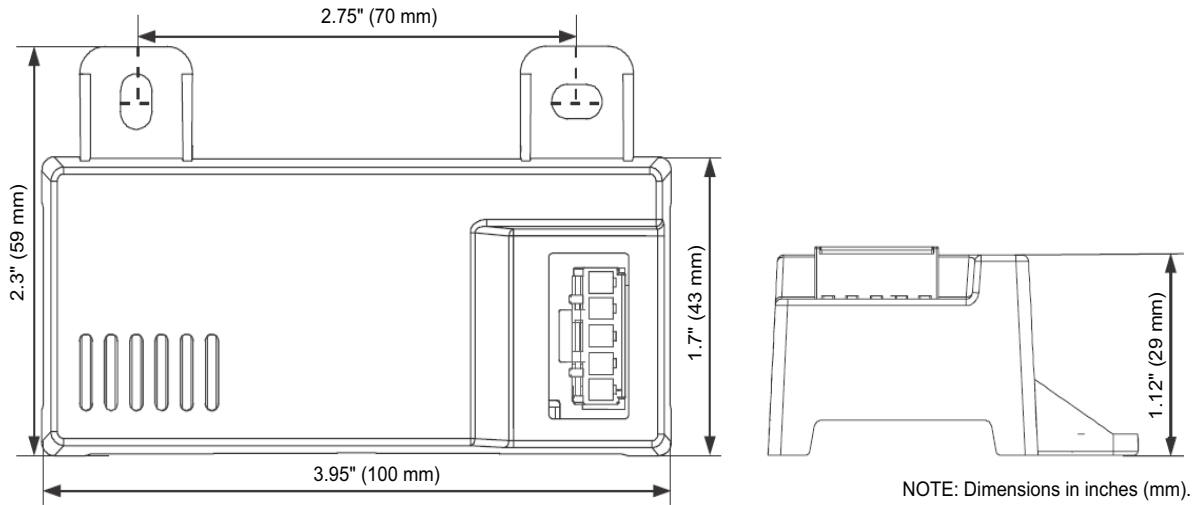
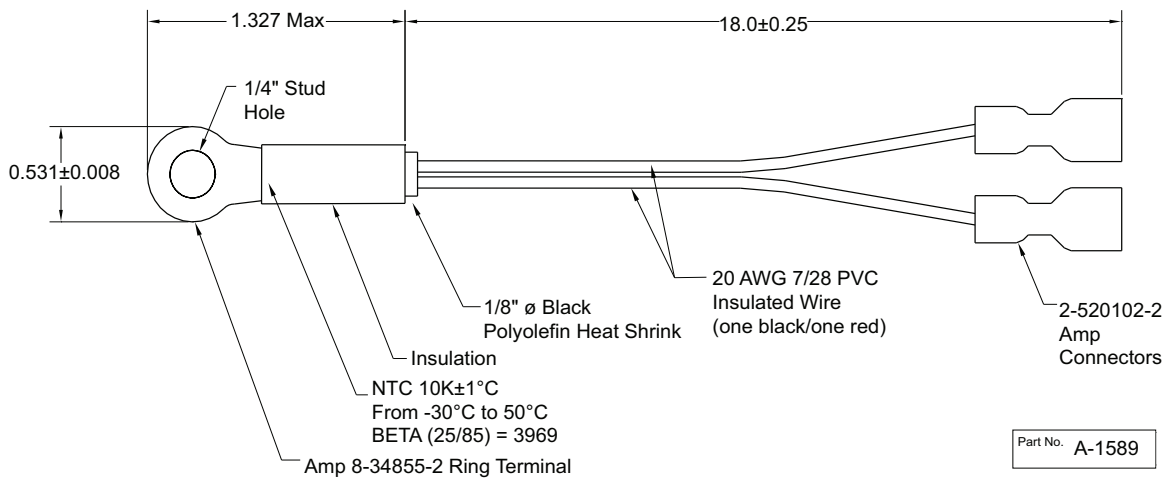
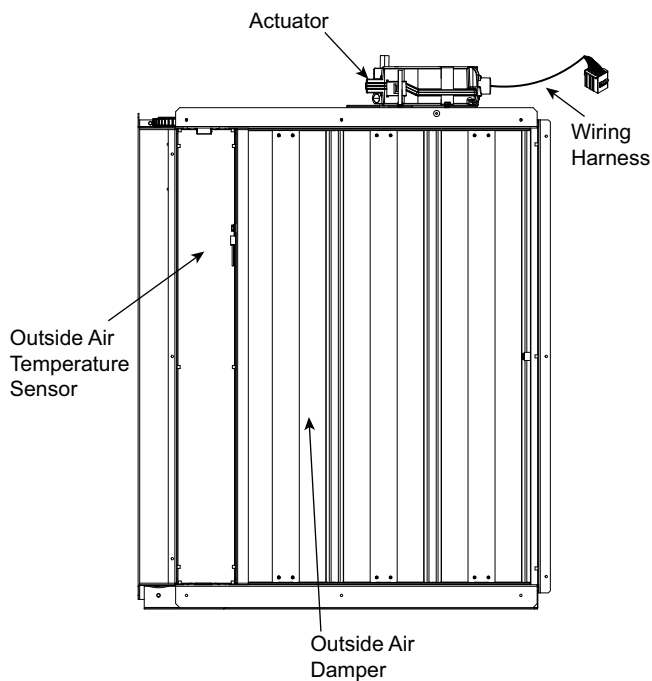

Fig. 66 – HH57LW001 Dimensional, Connection and Switching Information
Fig. 67 – HH79NZ039 Dry Bulb and Mixed Air Sensor Wiring
Fig. 68 – EconomizerONE Component Locations (CRECOMZR108A00 Shown)
When using the HH57LW001 enthalpy sensor (see Fig. 66) for outside air changeover, the existing HH79NZ039 dry bulb sensor (see Fig. 67) must be removed. The enthalpy sensor will be mounted in the same location as the dry bulb sensor (see Fig. 68). When the enthalpy sensor's OA (Outside Air) temperature, enthalpy, and dew point are below their respective setpoints, the outside air can be used for free cooling. When any of these are above the setpoint, free cooling will not be available. Enthalpy setpoints are configurable and create an enthalpy boundary according to the user's input. For additional details, see Fig. 69-70 and Table 28.
The optional enthalpy control sensor (P/N: HH57LW001) communicates with the POL224 economizer controller using the 5-wire harness, 48TC005213. The HH57LW001 sensor can be used as a single outside air enthalpy, a differential return enthalpy, or a differential return temperature sensor. Refer to the base unit control wiring diagrams found earlier in this book to wire the HH57LW001 enthalpy sensor for each option. Use Fig. 66 and Table 30 on page 49 to locate the wiring terminals for each enthalpy control sensor.
Economizers are shipped standard with an HH79NZ039 outside air dry bulb sensor (see Fig. 67). System default setting (high temp limit) is 63°F (17°C) and has a range of 48°F to 80°F (9°C to 27°C). Sensor is factory installed on economizer.
If installing the optional HH57LW001 enthalpy sensor, the HH79NZ039 dry bulb outside air sensor must first be removed. Wire sensor to harness 48TC005213 and the (5) wires from the harness to the EconomizerONE harness in the return air chamber. Harness 48TC005213 has a 5-pin plug that connects directly to the HH57LW001 enthalpy sensor. Refer to the base unit control wiring diagrams earlier in this book for wiring connections. Refer to Fig. 66 and Table 30.